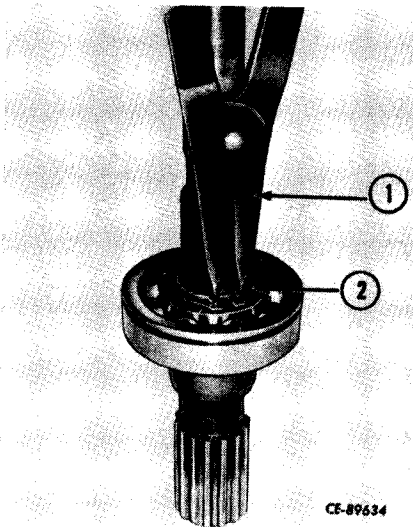

Figure 11-30
Using a snap ring pliers (1, Fig. 11-30) remove the snap ring (2).